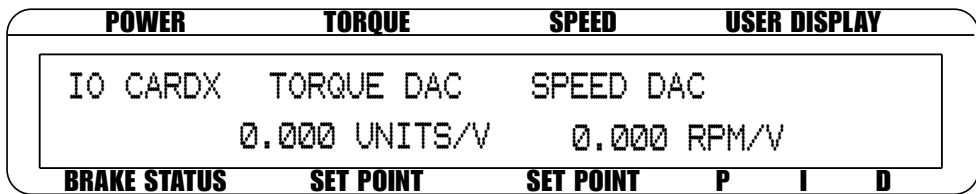

Figure 8-9 Torque/Speed DAC Setup Menu
3. Plug the GPIB card into the female header of the main board as shown in *Figure 8-9 GPIB Card Installation*. Ensure the component side of the GPIB card is on the left.